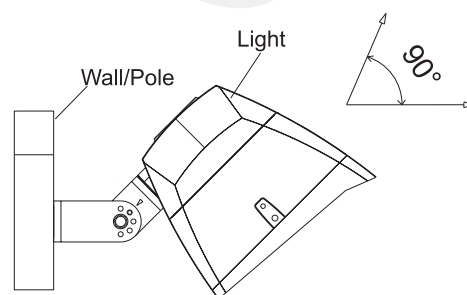

Figure 11
Step 3: Connect the fixture to the bracket and tighten the screws; connect the wires properly. (Figure 11)
Notice: Adjustable angle is $0^{\circ} \sim \pm 90^{\circ}$ (Figure 11)